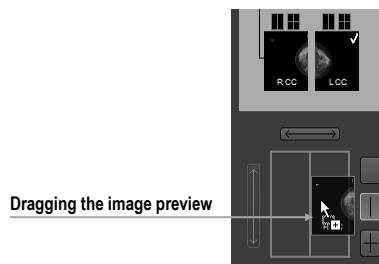

Figure 450 – Dragging an image from the study preview to the layout area
- Use the drag-and-drop technique to drag the image to the screen preview in the screen layout area in the image navigator (see Figure 450). The image is displayed in the appropriate view in the workspace on the left or right monitor.